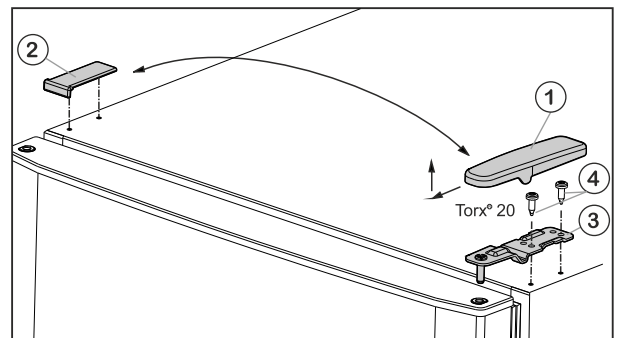

Fig. 5
- ▶ Pull off the cover Fig. 5 (1) forwards and upwards.
- ▶ Lift off the cover Fig. 5 (2).
- ▶ Unscrew the upper turn hinge Fig. 5 (3) (2 x Torx® 20 Fig. 5 (4)) and lift it off.
- ▶ Insert the upper turn hinge *Fig. 5 (3)* in the door on the new hinge side.
- ▶ Screw in the upper bearing block **tightly (with 4 Nm)** (2 x Torx® 20) *Fig. 5 (4)*. Use a cordless screwdriver if necessary.
- ▶ Fit the cover *Fig. 5 (1)* on the opposite side by sliding it rearwards and latching it into place.
- ▶ Press the cover *Fig. 5 (2)* on the opposite side down into place until it latches.